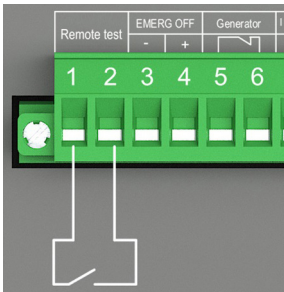

Figure 7. Remote test connection in OTM_C_21D
1. Connect to the remote test signal according to Figure 7.